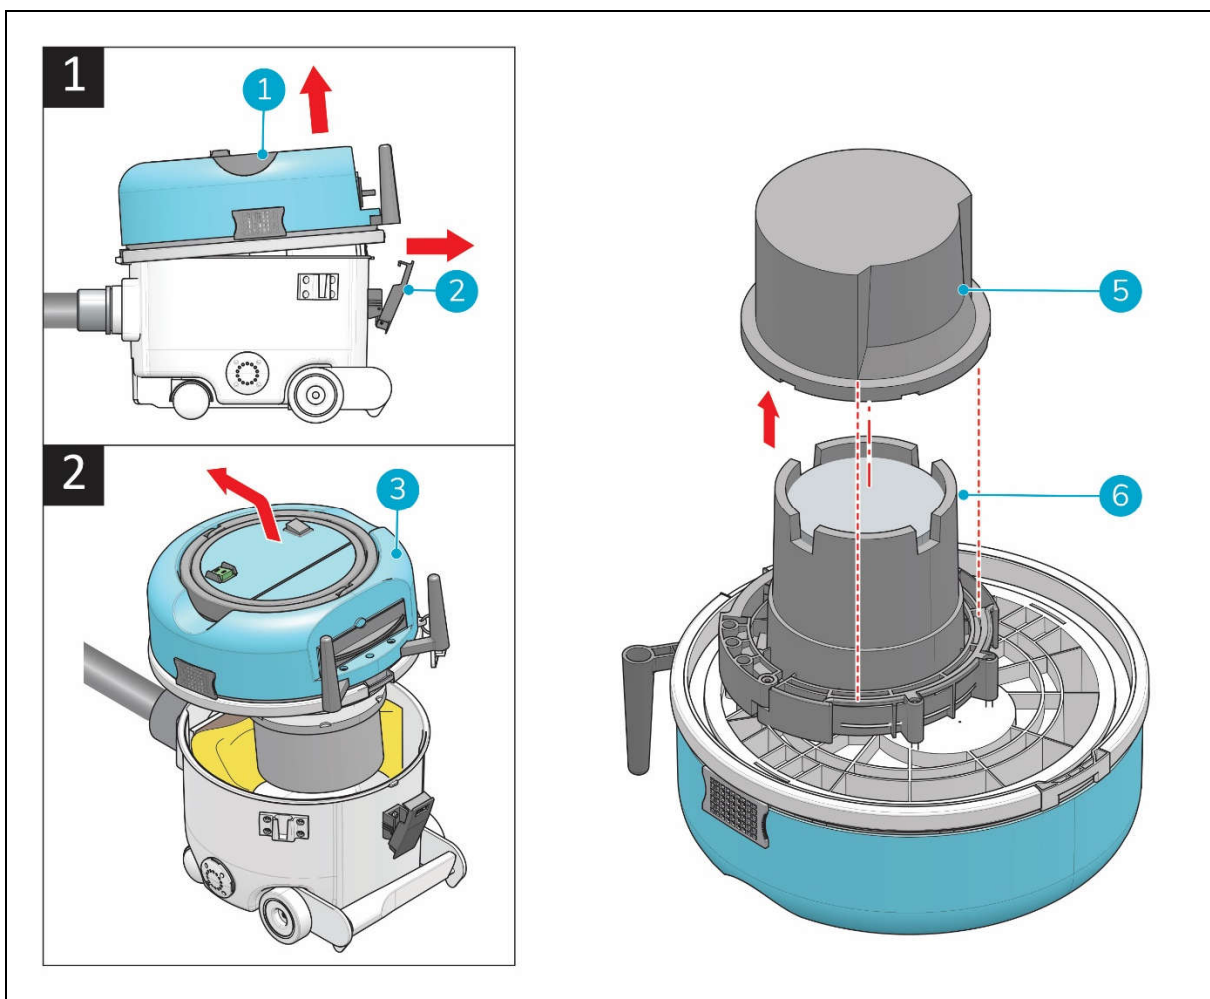

Figure 23
1. Release the latches (fig 23, pos 2).
2. Lift the head (fig 23, pos 1) under the grey rim, on the side of the latch.
3. Pull the head towards the side of the hose entrance and lift it up (fig 23, pos 3).
5. Lift the old motor filter (fig 23, pos 5) up to remove it.
6. Place the new motor filter. Align the cut-out of the filter with cut-out on the top of the motor (fig 23, pos 6).
1. Release the latch (fig 23, pos 2).
5. Lift the motor filter (fig 23, pos 5) up to remove it.
8. Place back the motor filter. Align the cut-outs of the filter with the cut-outs on the head of the i-vac 6® (see fig. 23).